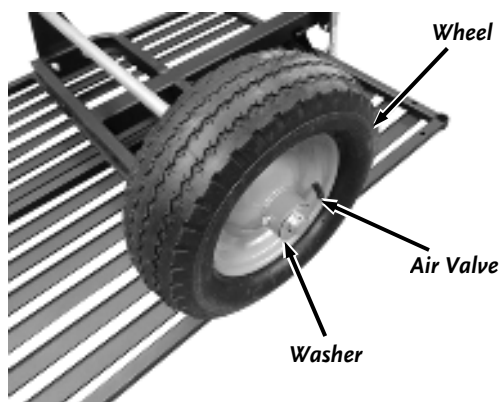

Figure 10
4. Slide a Wheel onto the Axle with the Valve Stem facing out and install a 1.06" ID X 2" OD X .13" Washer against the Wheel (Figure 10).